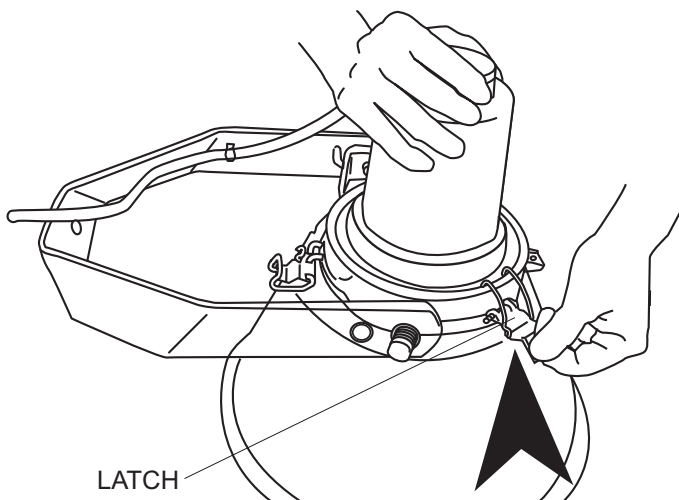

Figure 12. Securing Latch
- Tighten all three latches to secure reflex mirror to the socket. See Figure 12.